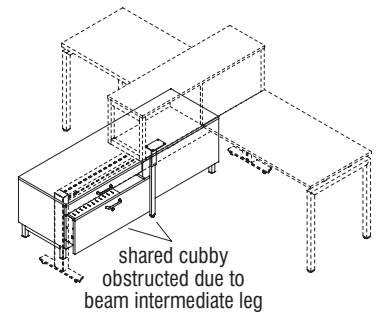

Figure 47
- Beam intermediate legs will prevent the placement of freestanding shared credenzas centered under the beam to make it accessible from both sides (Figure 47).